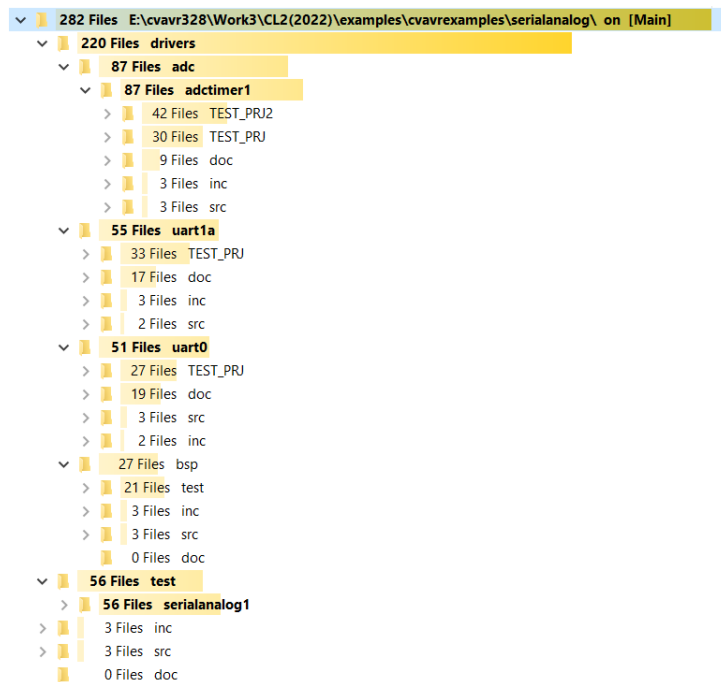

Figure 16 – Example 2 serialanalog directory structure
3.b Example 2 / serialanalog: This example builds on /blinked example, adding communication via the same COM0 serial port with a terminal program, and reading the 8 on-board ADC channels. The directory structure is similar to Example 1, and is shown in Figure 16. The /test/serialanalog1 directory has the project files generated via the Codevision / IDE compiler. The /drivers directory holds the specific low level routines (here adc/adctimer1 and /uart0 is added to /bsp, /uart1 is not used but required by /bsp) and the /src/main.c and /inc/main.h files hold the user program.